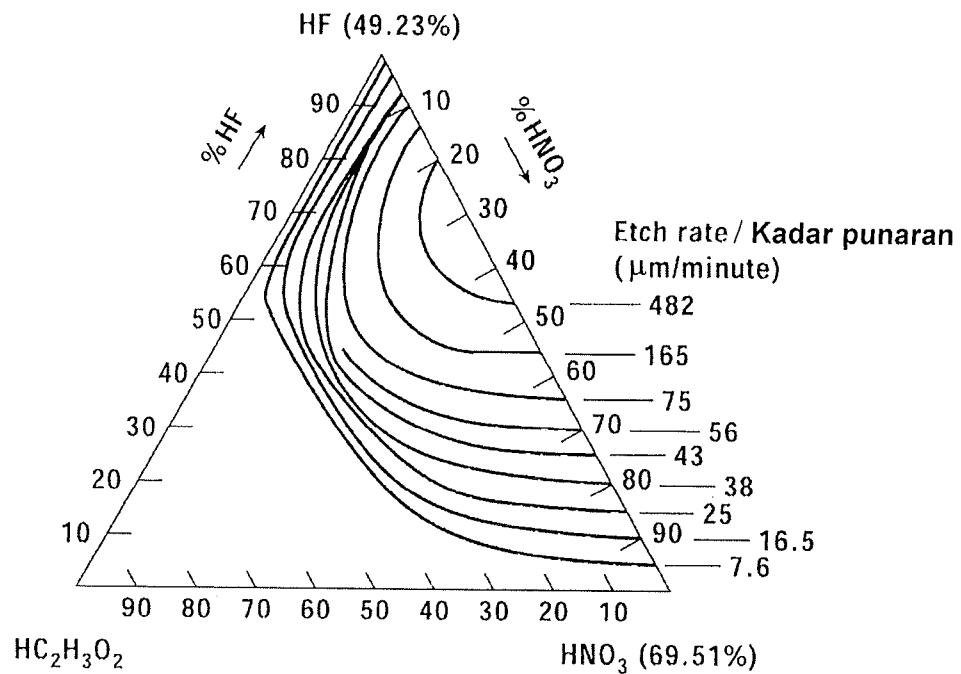

Figure 1: Schematic diagram of the etch rate for silicon in HF, HNO_3 and $\text{HC}_2\text{H}_3\text{O}_2$ at room temperature
- [b] An etching solution containing mixture of 15 % of HNO_3 , 80 % of HF and 85 % of $\text{HC}_2\text{H}_3\text{O}_2$ is used to etch silicon. Refer to Figure 1, estimate the etch rate for this solution at room temperature and also discuss the surface topography of the etched silicon surface.